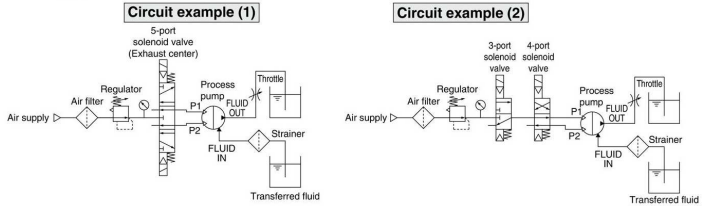

Fig 4. Air Operated Circuit Examples
< Starting and Stopping > Refer to circuit examples [Fig.4].
Note 2: For the solenoid valve, use an exhaust centre 5 port valve, or a combination of residual exhaust 3 port valve and a pump drive 4 port valve. If air in the drive chamber is not released when the pump is stopped, the diaphragm will be subjected to pressure and its life will be shortened. Refer to circuit examples (1) and (2) [Fig.4].